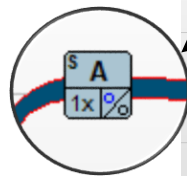

Figure 280
77. If the Mirror check mark is set for the respective step, a mirrored version of this cut will also be added to our nest in addition to the normal cut for this step. So, we will finally get two cuts, one normal and one mirrored cut. If you also take a closer look at the MasterCut ID boxes you will see that also the mirror sign is indicated now (Figure 280).